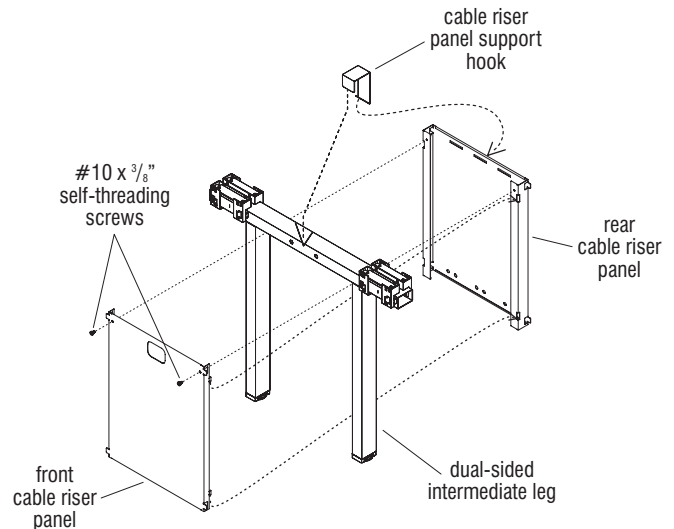

Figure 7 - Dual-Sided Benching - Adder Leg with Cable Riser
1. Position cable riser panel support hook as illustrated, orienting it onto the top of the dual-sided intermediate leg, centered between the holes of the horizontal upright (Figure 7).
2. Next, engage the lower tab of the panel support hook into the top of the rear cable riser panel. The rear riser panel will nest between the two legs of the intermediate leg (Figure 7).
4. Position the front cable riser panel up between the dual-sided intermediate leg and nest the four tabs of the front panel into the notches in the rear riser panel. Finally, secure the panels together at the top using two #10 x 3/8" self-tapping screws (Figure 7).